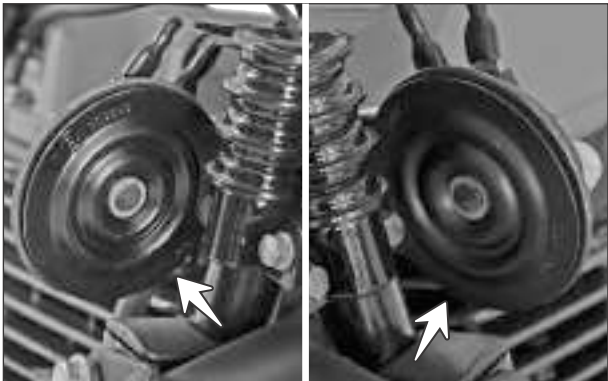

Fig. 5.23
- ▮ The horns are mounted on the frame at the front side of the vehicle below the fuel tank. (Fig. 5.23)
- ▮ The DC output orange wire (Or) from the ignition lock is connected to the horns directly and the negative green wire (G) from the horns is connected to earth through the horn switch.